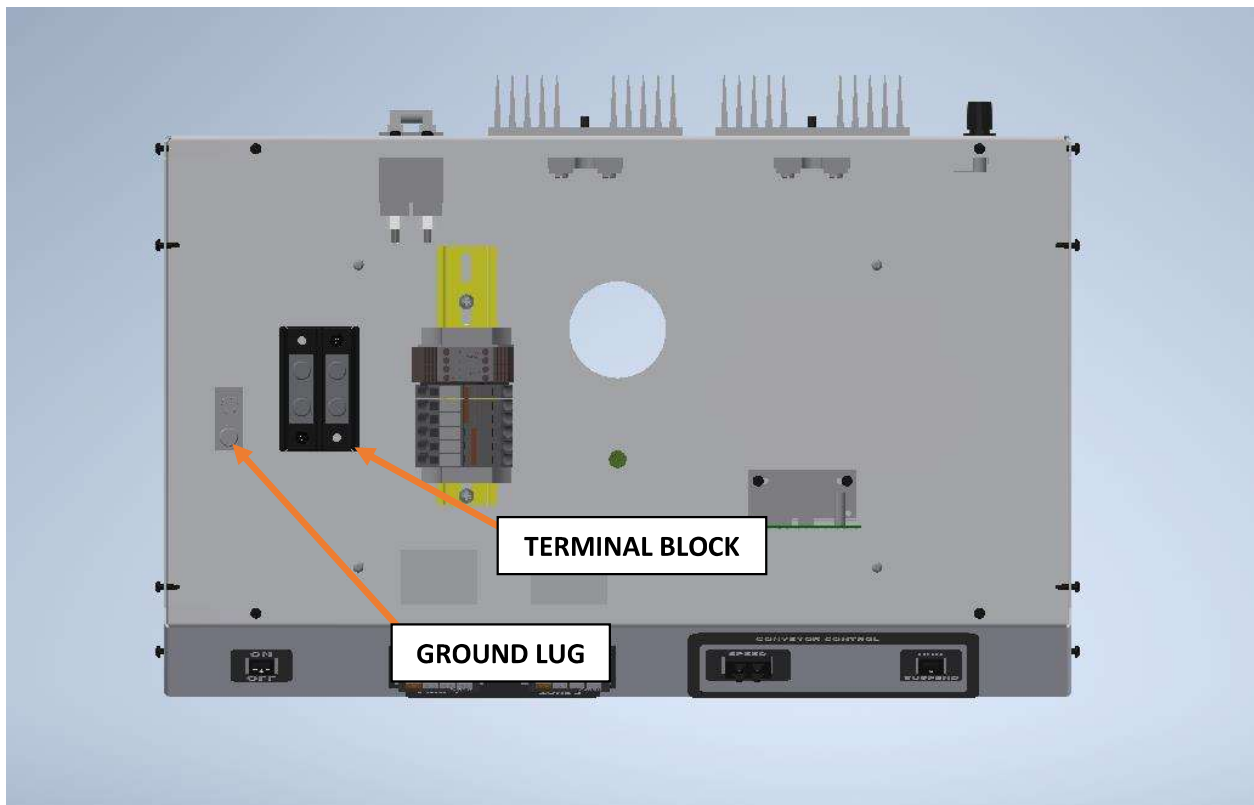

FIG. 2 – SINGLE PHASE Control Panel
4. Place the HOT (and Neutral for 415Y/240V 4-Wire power) leads into the open side of the large TERMINAL BLOCK and tighten set screws (FIG. 2 & 3). BE SURE NOT TO CLOSE WIRE INSULATION IN TERMINAL BLOCK.